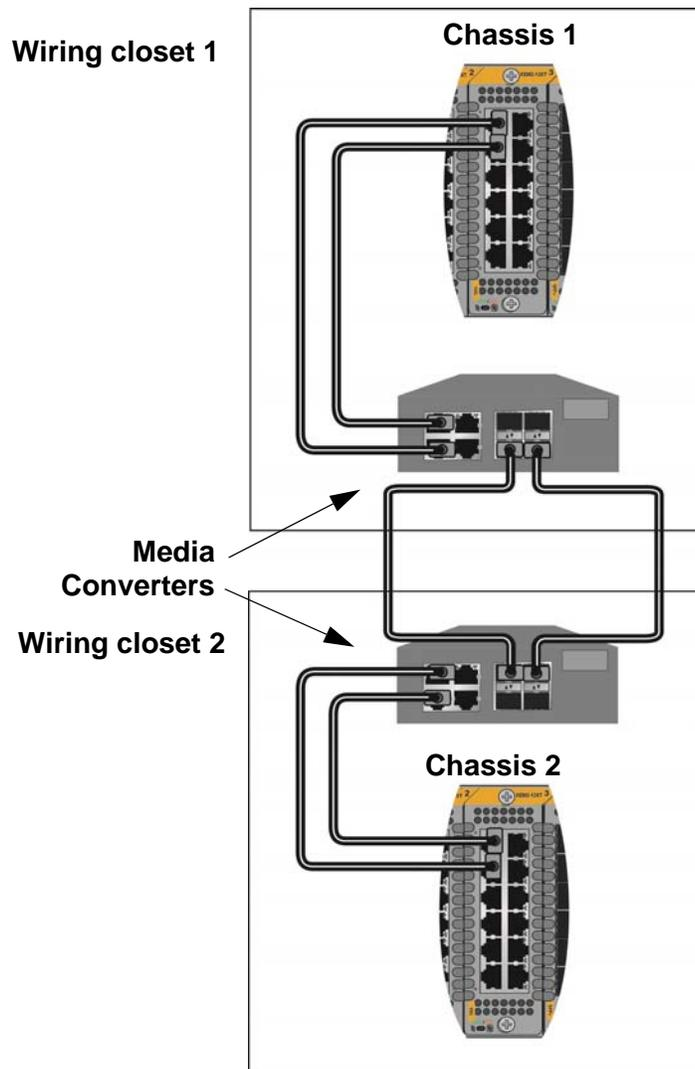

Figure 28. Unsupported Trunk with Intermediary Network Devices
- ❑ Trunk links must be direct connections between ports on the line cards. A trunk cannot have any intermediary network devices, such as media converters, routers, or other Ethernet switches. Figure 28 is an example of an unsupported trunk because it has intermediary network devices, in this case media converters.